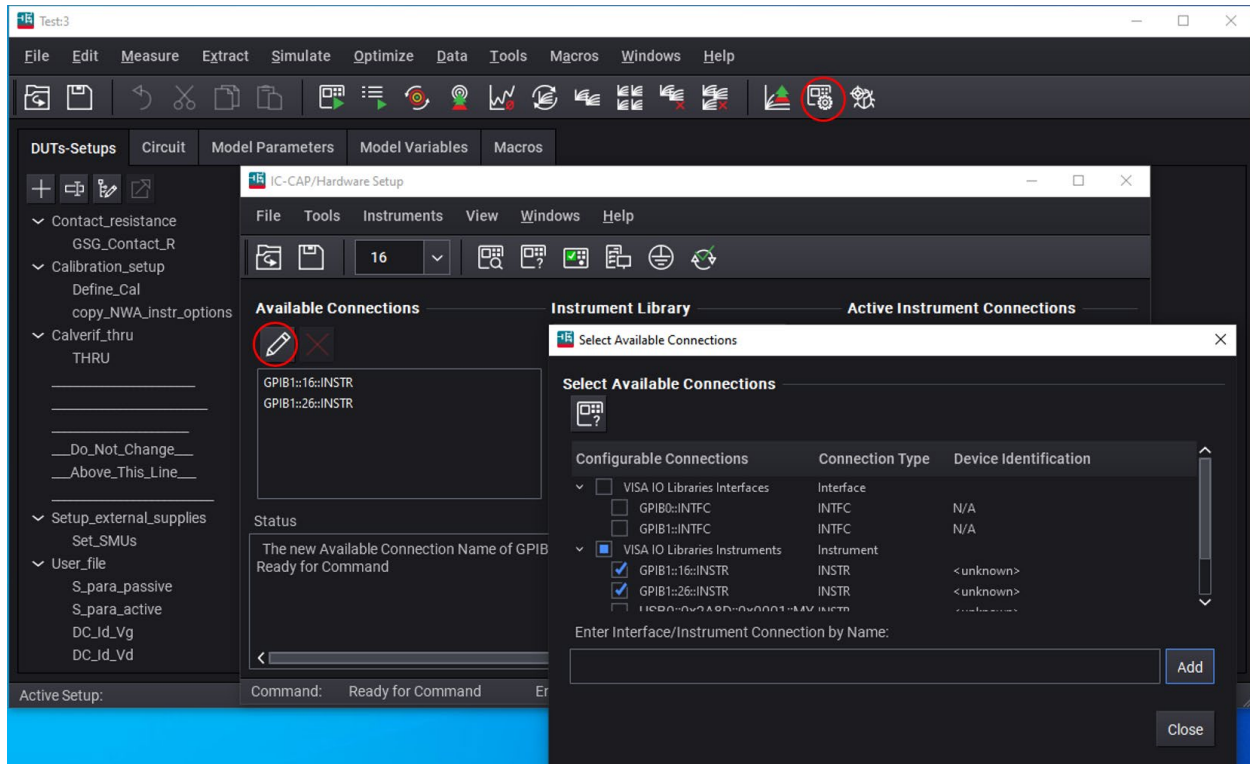

Fig. 7.2. "Test" hardware setup.
- 7.4 On the "Test" top menu, click on  to open the window for "IC-CAP/Hardware Setup" as shown in Fig. 7.2.
- 7.5 Under "Available Connections," click on  to "Select Available Connections." Check "VISA IO Libraries Instruments." Confirm that "GPIB1::16::INSTR" and "GPIB1::26::INSTR" are checked. If on the third row "USB0:..." is also checked, an error message will appear to tell you that it cannot be found. Don't worry. Just click on "OK" on the error message and it will be automatically unchecked. Click on "Close" on the lower right to return to the "Hardware Setup" window. Don't click on "Add." If you do, an error message will appear to remind you that IC-CAP doesn't know what "Interface/Instrument Connection" to add. Just click on "OK" to return to Fig. 7.2 before closing it.